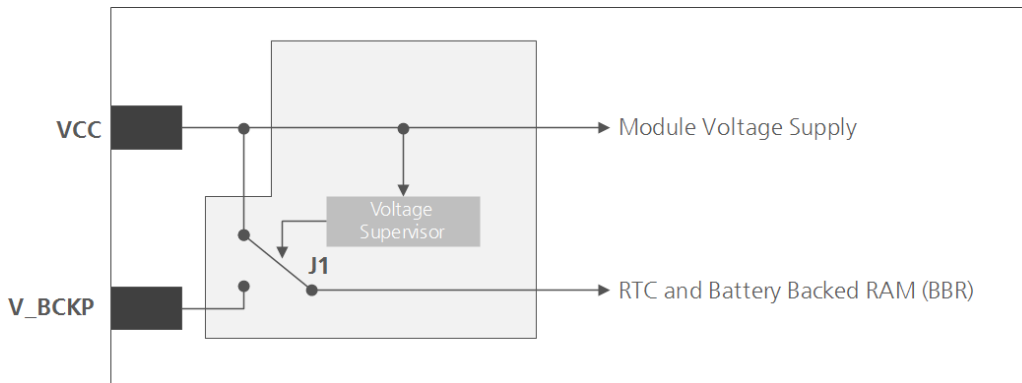

Figure 1: Backup battery and voltage (for exact pin orientation, see the NEO-M8Q-01A Data Sheet [1])
- As long as power is supplied to the NEO-M8Q-01A module through the **VCC** pin, the backup battery is disconnected from the RTC and the BBR to avoid unnecessary battery drain (see Figure 1). In this case, **VCC** supplies power to the RTC and BBR.